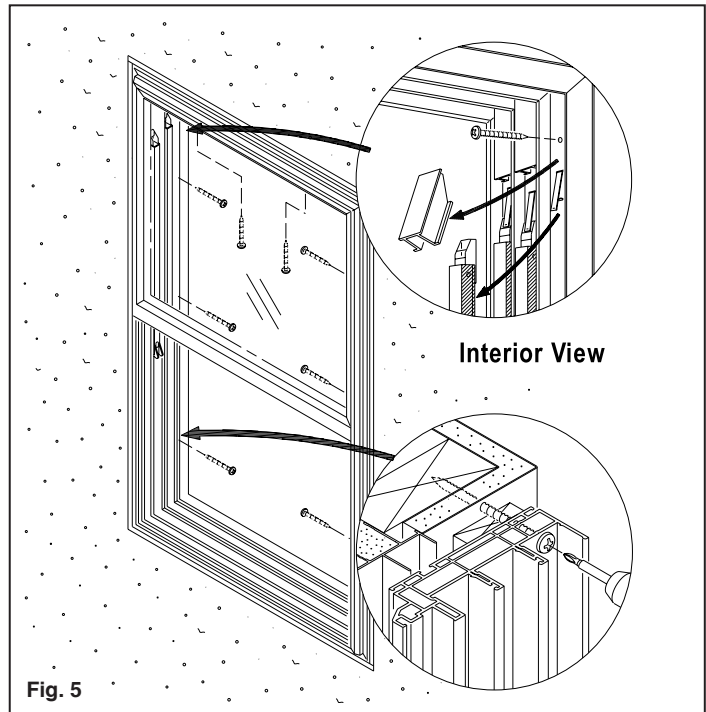

Fig. 5
B. Screw head and jambs into frame opening using #8 x 1 1/2" Phillips sheet metal screws. Screws must be long enough to secure new frame to existing wood frame. Screw through the last channel in the head and jambs closest to the interior of the room. See Fig. 5. Screws should be no more than 18" apart on center with corner screws approximately 6" from end. Care should be taken not to over tighten screws, this would avoid warping. Leave a 1/4" gap at the head for deflection between the frames.